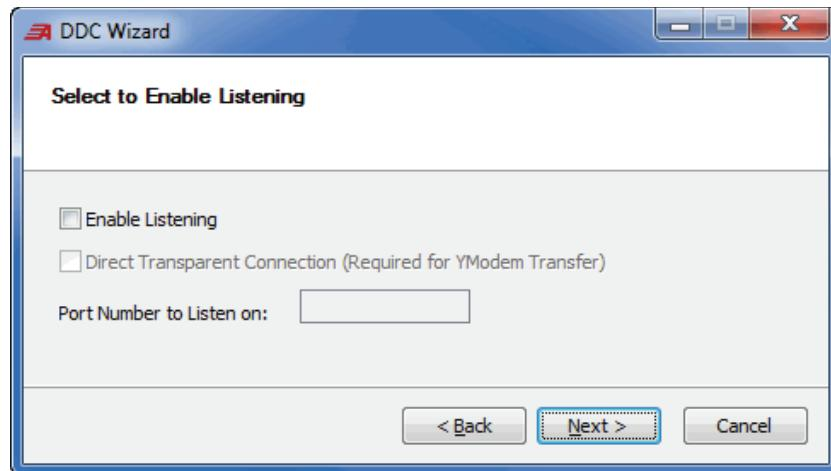

Figure 29 Select to Enable Listening Window
Step 3. Select **Next**, leaving **Enable Listening** clear, as shown in *Figure 29*, and select **Next**.